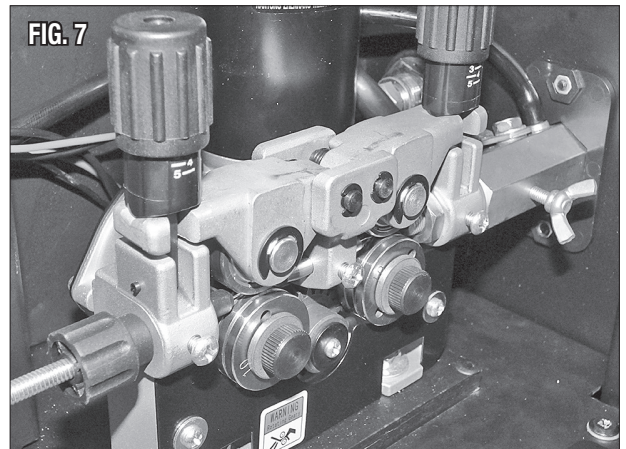

FIG. 7
- Open the side door of the Welder and loosen the Welding Gun Thumb Screw (FIG 7).
- Choose the wire size needed and slip the Drive Rollers back onto the shafts with the desired wire size stamping facing inward (FIG 7).